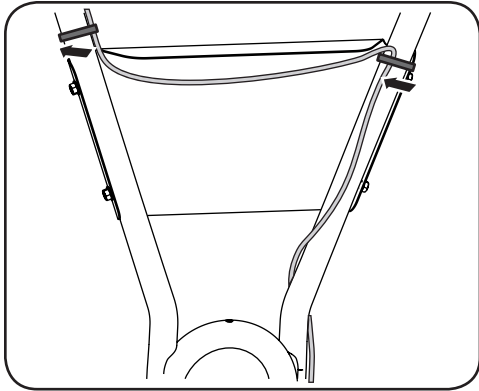

Figure 2-10
- Route the wire behind the panel to the left side handle, and secure it just above the upper corner of the panel with a cable tie. (Keep the wire positioned along the inside of the handle). See Figure 2-10.